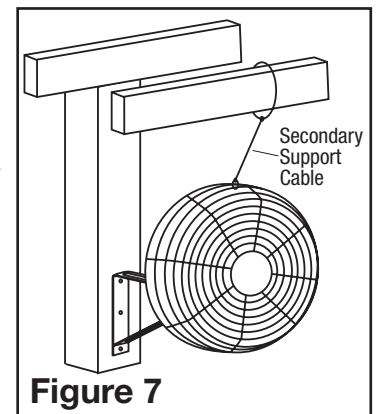

Figure 7
3. Wrap the other end of the Cable around a secure building joist, truss, or other support near the Fan. Take up all excess slack in the Cable (**Figure 7**).